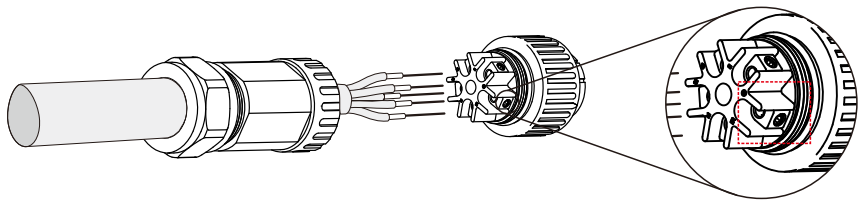

Figure 5.22 Connected cable
A) Stripped the insulation sleeve of cable for 70mm, so that bared copper-cored connector reaches for 9mm. Cable through nut and sleeve of socket element, insert corresponding terminals and tighten with allen wrench (see figure 5.22). Torque is 1.8-2.0Nm.
Tighten cable with 3.0 mm allen wrench(focus in dotted box, see figure 5.22). Allen screw is easy to drop off, don't screw out completely.